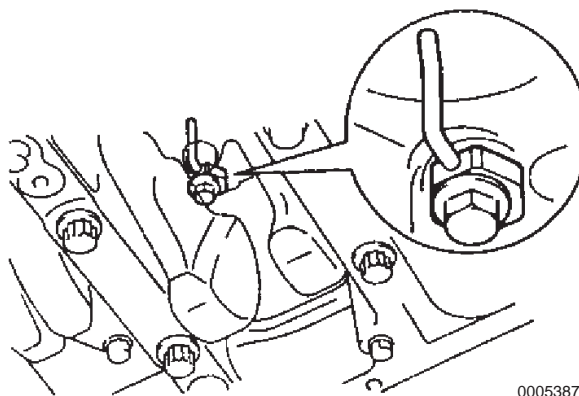

Figure 8-35
2. Install the oil nozzle together with the check valve **(Figure 8-35)**. Install 6 oil nozzles and check valves and torque to 175 kgf-cm, 17.16 N-m (151.8 lb-in.).